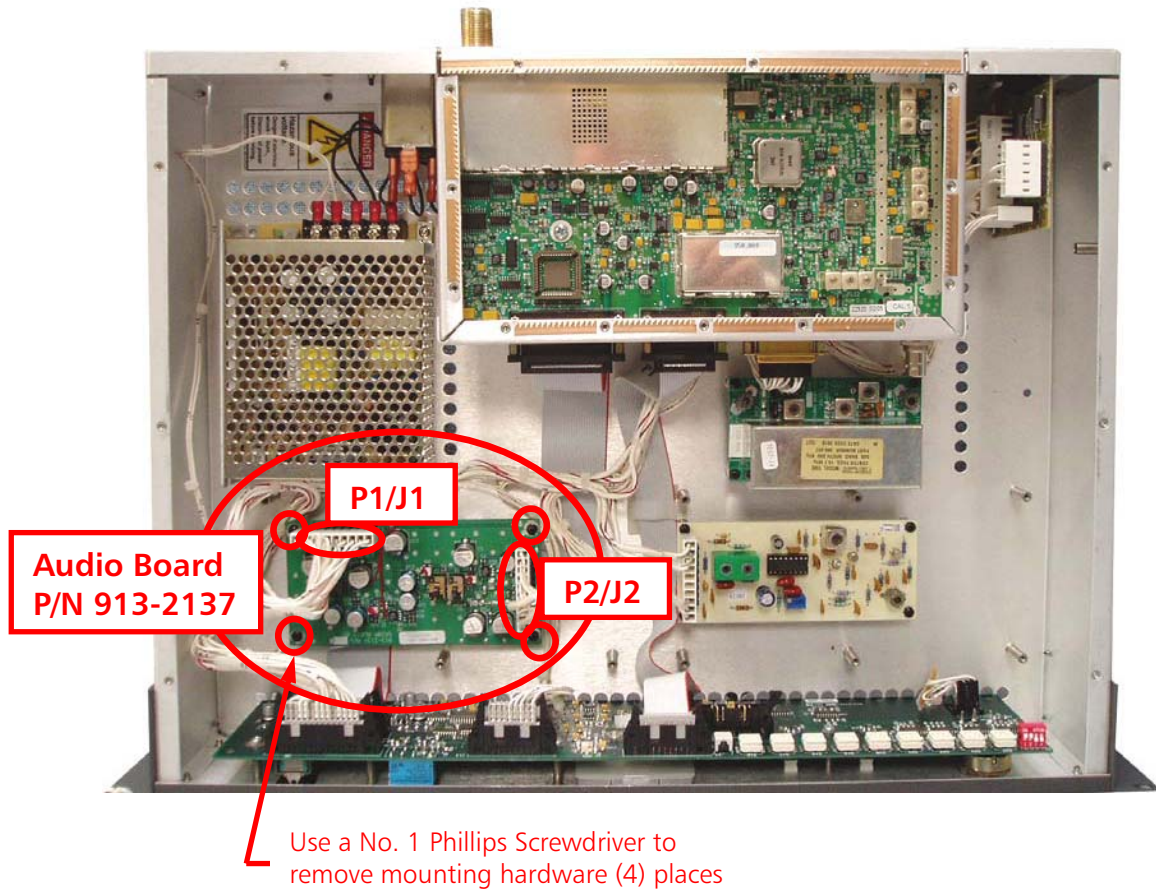

Figure 3 – Audio Board (P/N 913-2137) Location
Step 12 – Install the Audio Board back into the unit ensuring that J1 and J2 are located as shown in **Figure 3**.